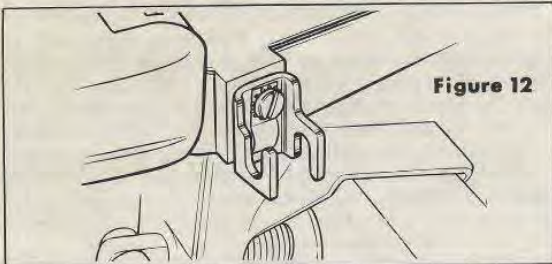

Figure 12
2. Attach the **SILVER** colored bracket to the port side of the motor on the boss provided, using the screw, lockwasher and clip provided. See Figure 12.